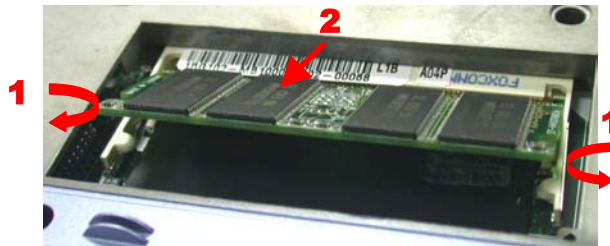
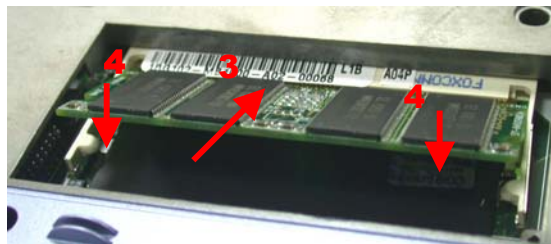

Fig1
Fig2
1. Find the memory socket under the Keyboard (Fig1) and bottom case (Fig2) as following photos and upgrade memory by the process of item2 and item3.